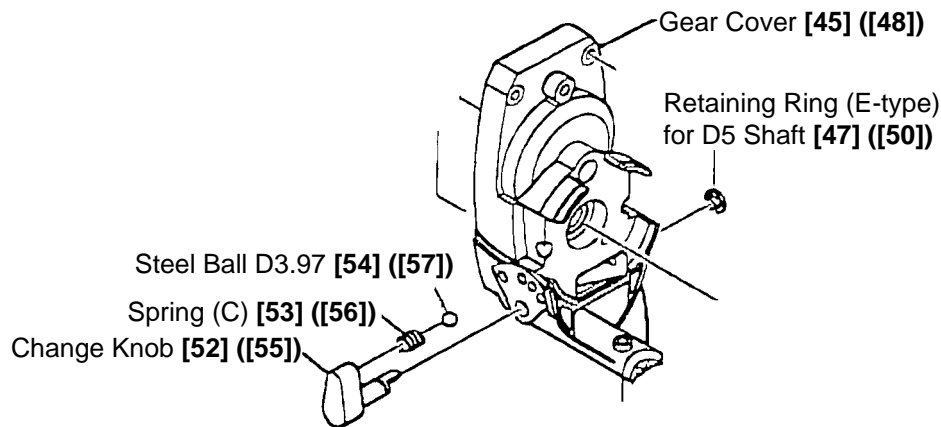

Fig. 12
(8) Disassembly of the Change Knob [52] ([55]) (Fig. 12)